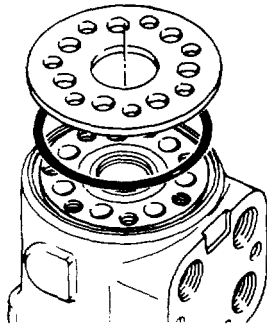

Figure 21
- 19. Install 3" diameter seal in housing, see Fig. 21.